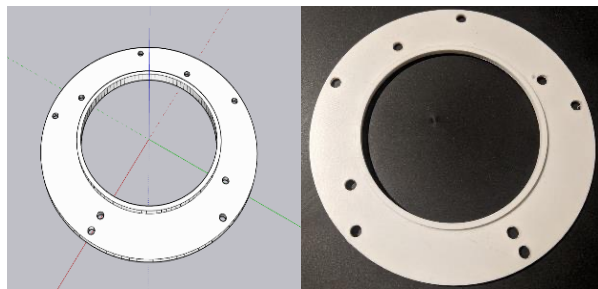

Figure 3.5 3D printed hole jig
Step 6: Drill the holes for the speaker protection grill screws and speaker driver mounting screws (4 mm holes). If you have access to a 3D printer, you can print out a jig (refer to Figure 3.5). You could probably do this step before gluing in Step 5.